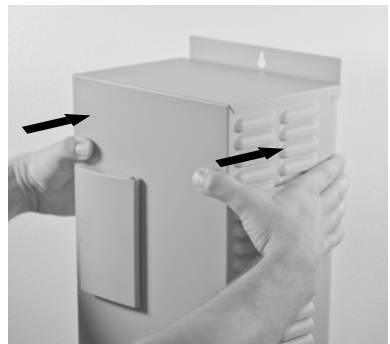

Figure 7 - Re-attaching Drive cover
6. To reattach the Drive cover, hook the top of it on backplate (be sure to leave a gap). Lower bottom of cover into place. Push cover evenly against backplate, eliminating the gap. See Figure 7.